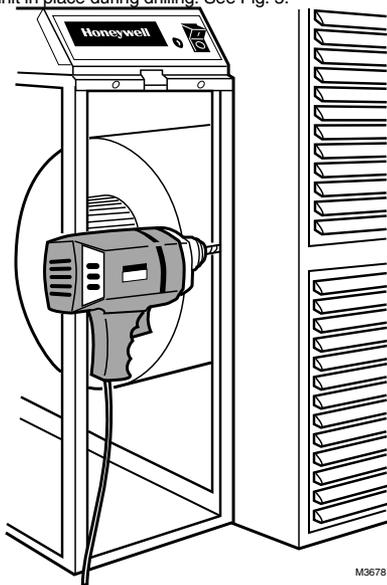

Fig. 5. Fasten cabinet to furnace.
- Attach the cabinet securely to the furnace. The unit can be attached directly, as shown, or a starting collar can first be fitted in the furnace opening. Either drill holes and fasten with sheet metal screws or rivets, or use slip joints. If drilling holes, use locking pliers to help hold the unit in place during drilling. See Fig. 5.